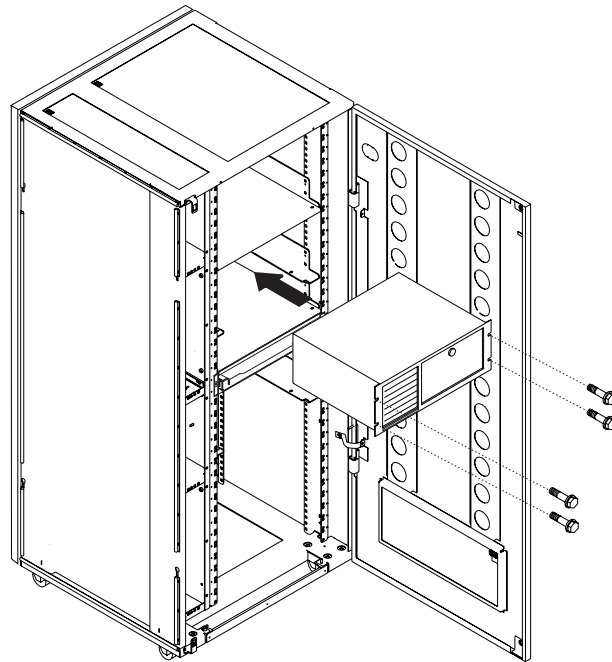

Figure 1-10. Installing the Service Processor Unit in the Controller Expansion (Front Side)
13. ____ Slide the service processor unit on the brackets as shown in Figure 1-10, secure the unit using four screws (PN 1621230), then go to step 15 on page 1-16.